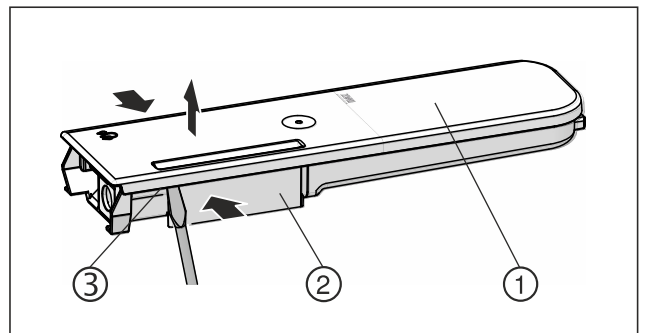

Fig. 135
- ▶ Push the water tanks Fig. 135 (2) together, leverage the cover Fig. 135 (1) carefully over the latching tabs Fig. 135 (3) and lift it up.
- Move the cover Fig. 135 (1) slightly forwards and back, and remove to the top.